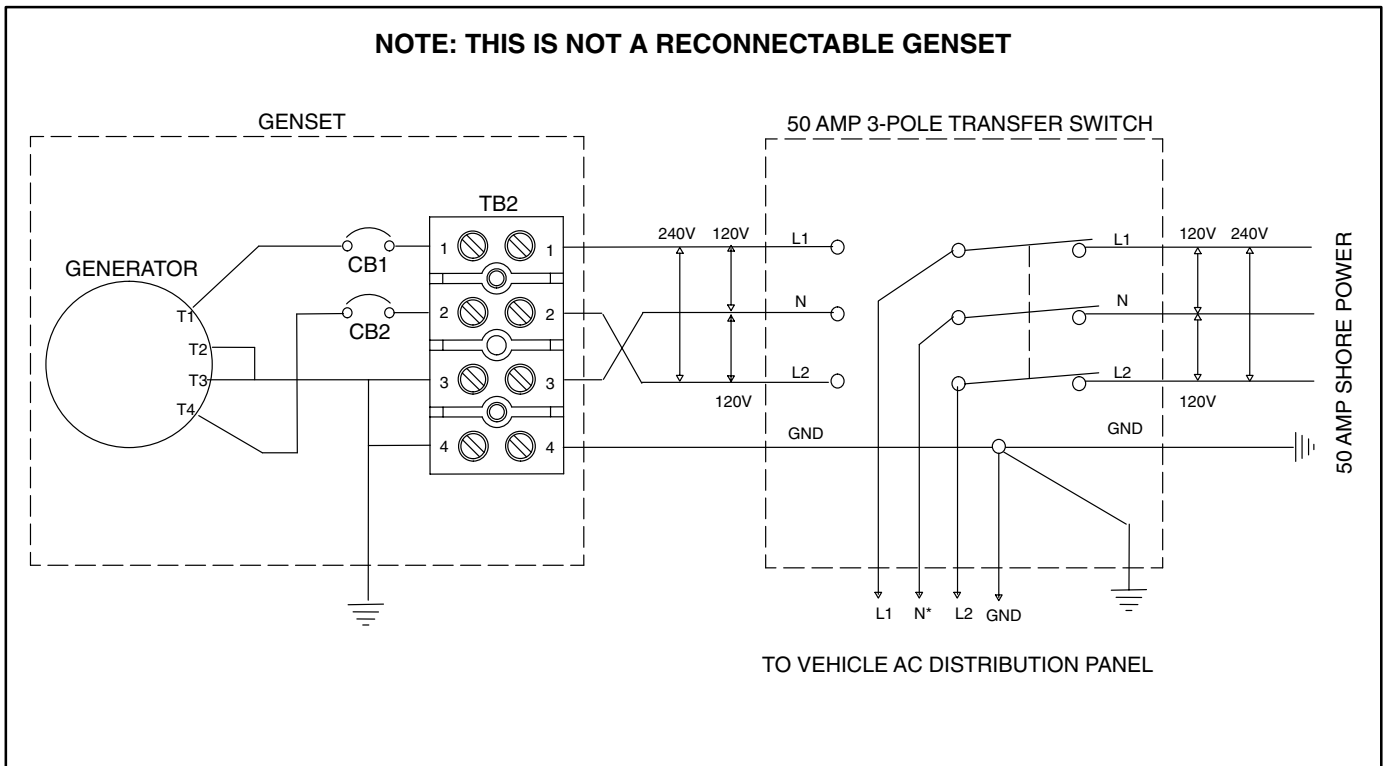

FIGURE 5-2. TYPICAL AC CONNECTIONS
- Connect the grounding terminal (Terminal TB2-4, Figure 5-2) in accordance with applicable codes.
A vehicle with provisions for connecting utility (shore) power must have an approved device to keep the genset and utility from being interconnected. See Figure 5-2 for typical connections.